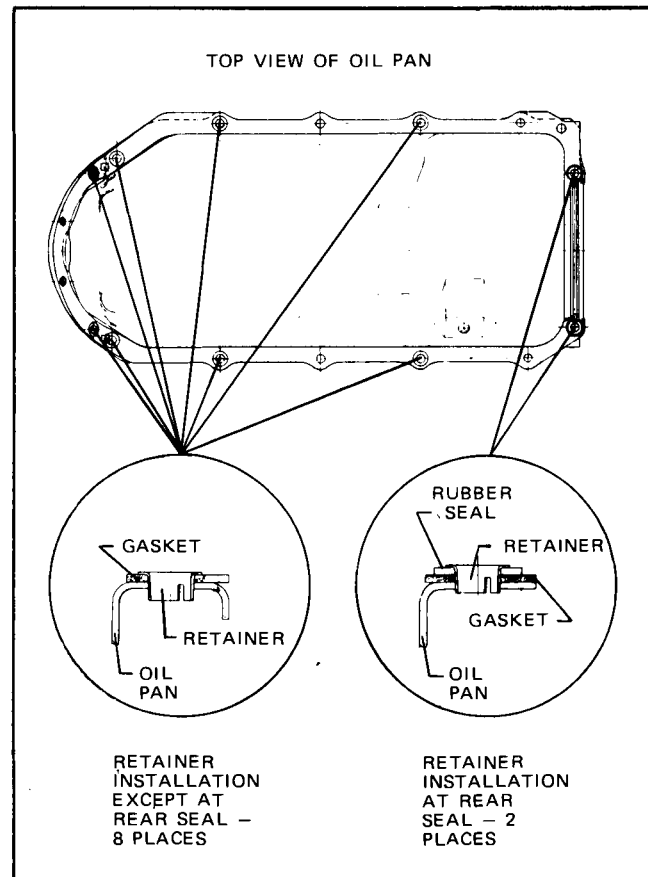

Fig. 6-135 Oil Pan Gasket Retainers
3. Install new gaskets on oil pan (Figs. 6-135, 6-136 and 6-137).